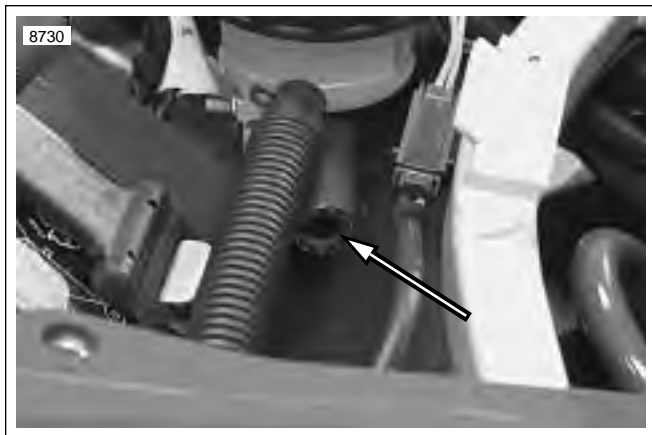

Figure 3-26. Transmission Vent Line
35. See Figure 3-26. Cut the two tie wraps holding transmission vent line and pull vent line out of frame leaving it attached to engine.